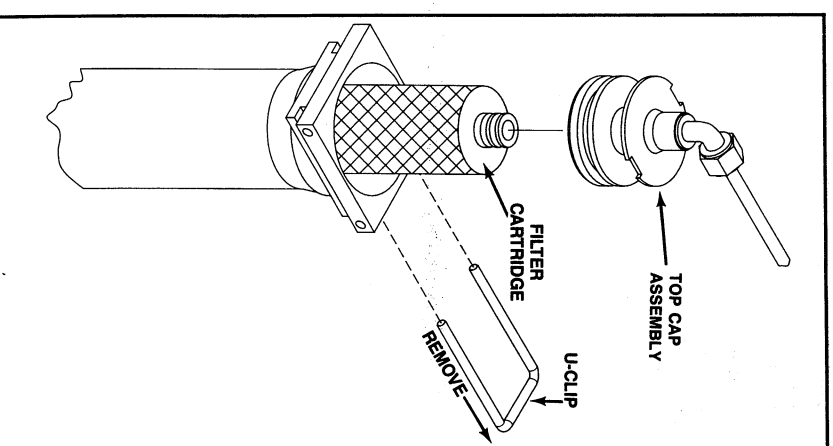

FIG. 8
3. Remove the U-clip from the filter housing (Fig. 8), pry it partially out with a screwdriver, then pull it free.